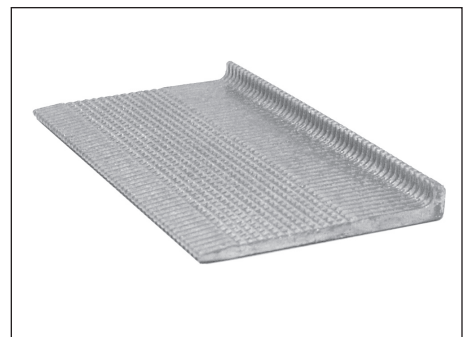

Figure 8 - L-Cleats
**L-CLEATS** — A type of fastener used to fasten tongue and groove hardwood flooring (see Figure 8).